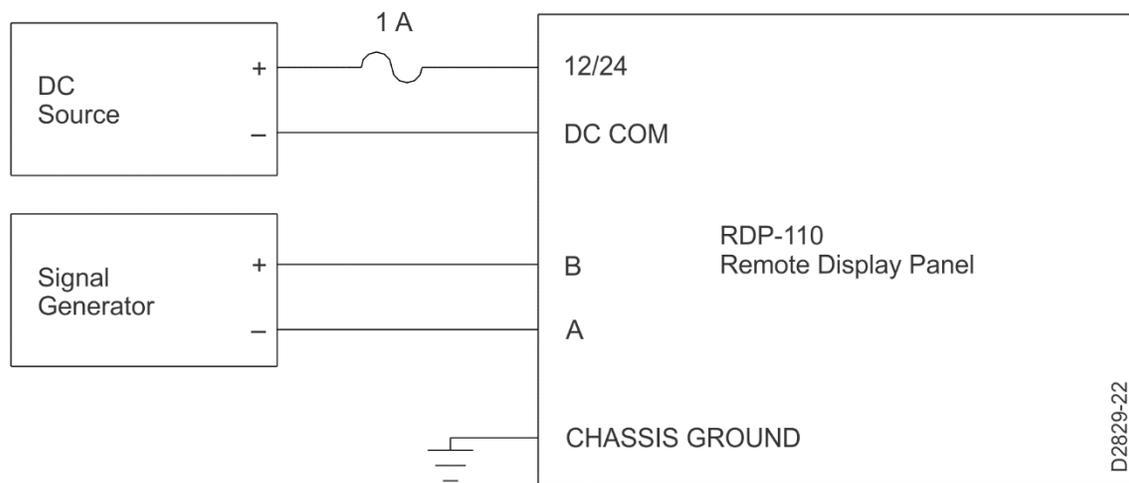

Figure 9. RDP-110 Test Setup
Equipment needed for testing RDP-110 operation is listed below. Connections for the test are illustrated in Figure 9.
1. Connect the RDP-110 test setup as shown in Figure 9.